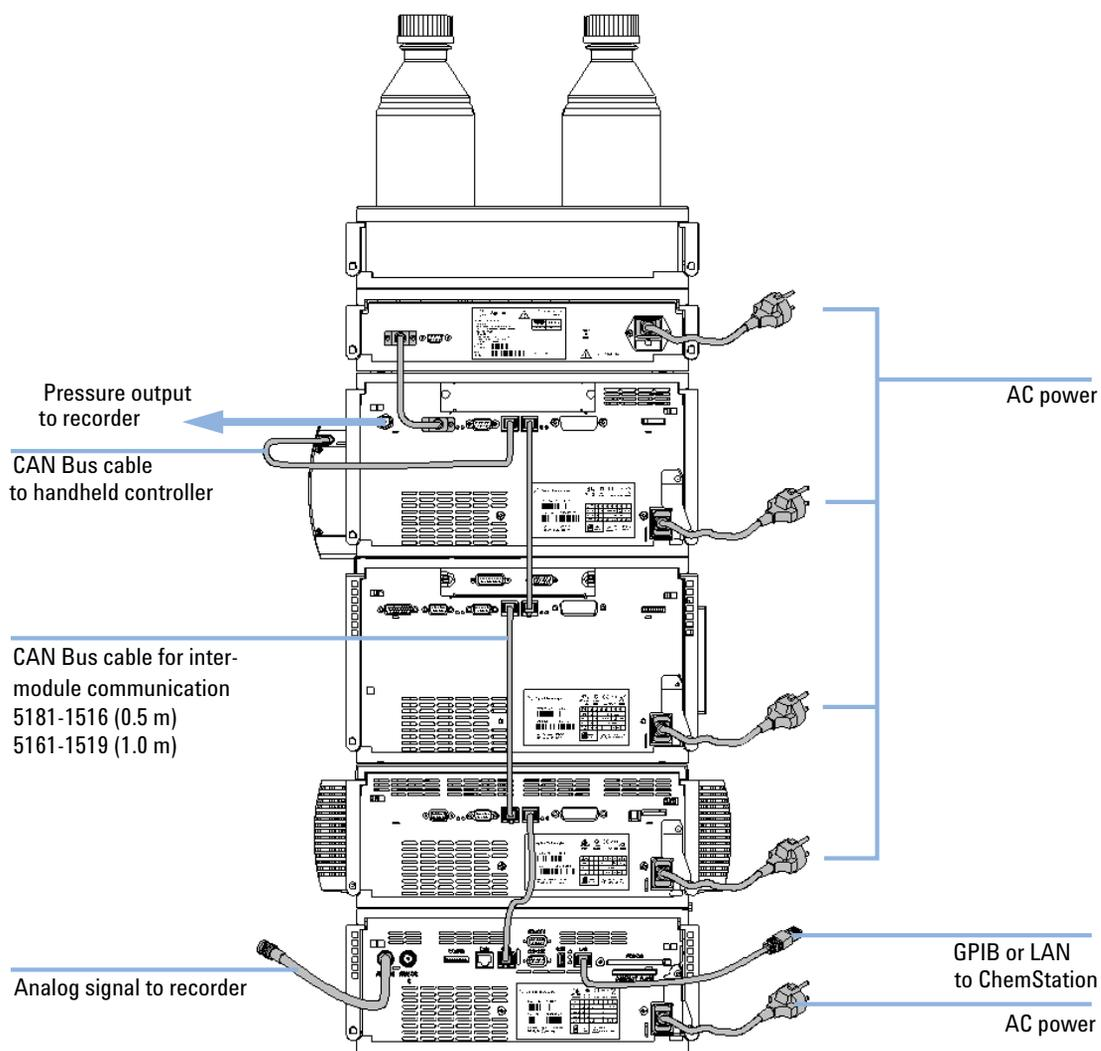

Figure 6 Recommended Stack Configuration (Rear View)
- 4 Connect the CAN cable to the CAN connector of the next module, see Figure 6 on page 30.
- 4 Connect the APG cable to the APG remote connector of the pump, see Figure 6 on page 30.